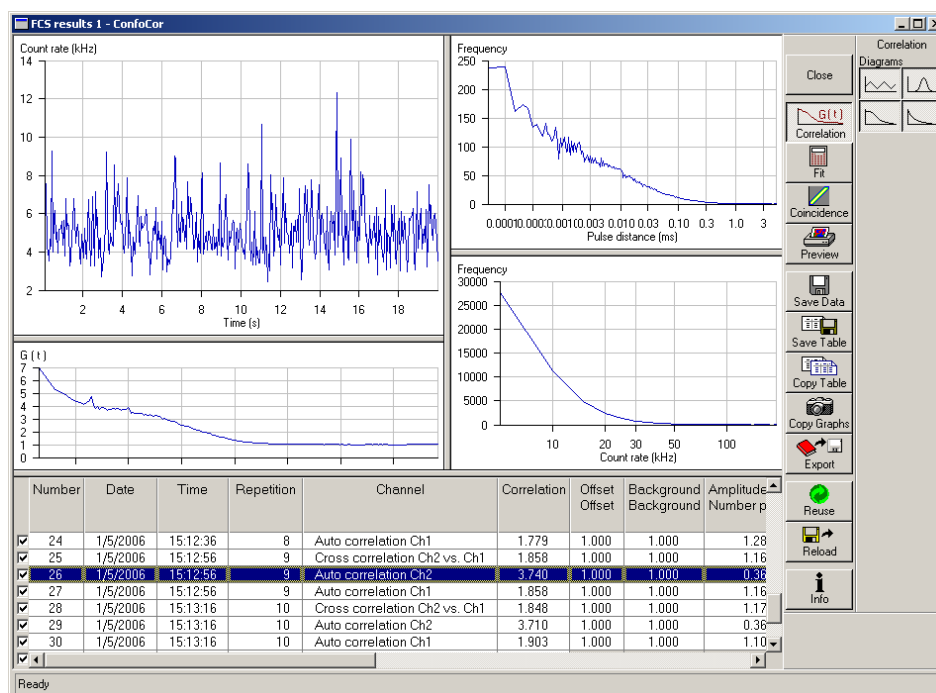

Fig. 4-108 Data evaluation window
The data evaluation window (Fig. 4-108) of the FCS software part corresponds to the basic structure of other Microsoft® WINDOWS applications.
- The **Data Evaluation** window will appear (Fig. 4-108).
- The **Correlation** display toolbar will appear to the right of the **Data Evaluation** window (Fig. 4-108).